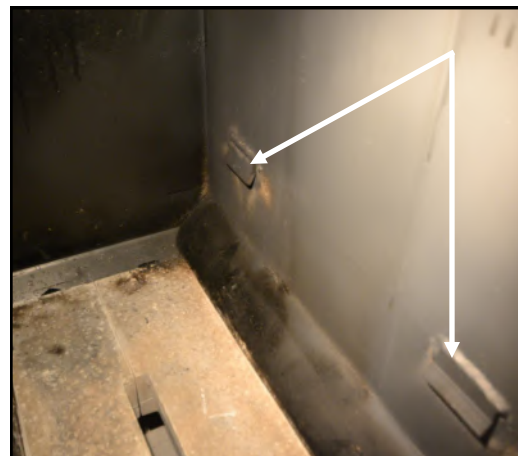

Fig. 4.11 Primary Air Ventilation Holes
3. Check the primary air ventilation holes (**Fig.4.11**) for unobstructed airflow.